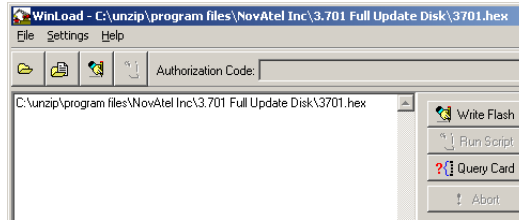

Figure 21: Open File in WinLoad
Once you have selected your file and clicked Open, the name of the file appears in the main WinLoad display area and in the title bar, see *Figure 21*.
3. Make sure the file path and file name are displayed in main display area, see *Figure 21, Open File in WinLoad* on page 65.